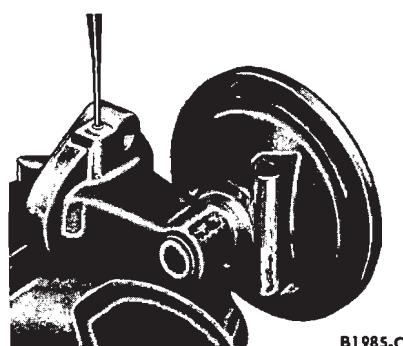

FIG. 7—Staking the Pin Retaining Plug
3. Install a new rocker arm pin retaining plug. Stake the plug into position (Fig. 7).